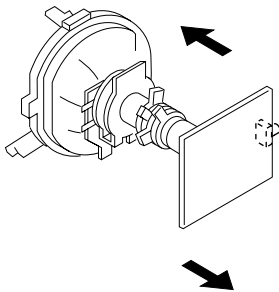

Fig. 3-1
(See Figures 3-1 through 3-4.)
- 4. Move the deflection yoke forward and adjust so that the entire screen is green. (See Figure 3-1.)